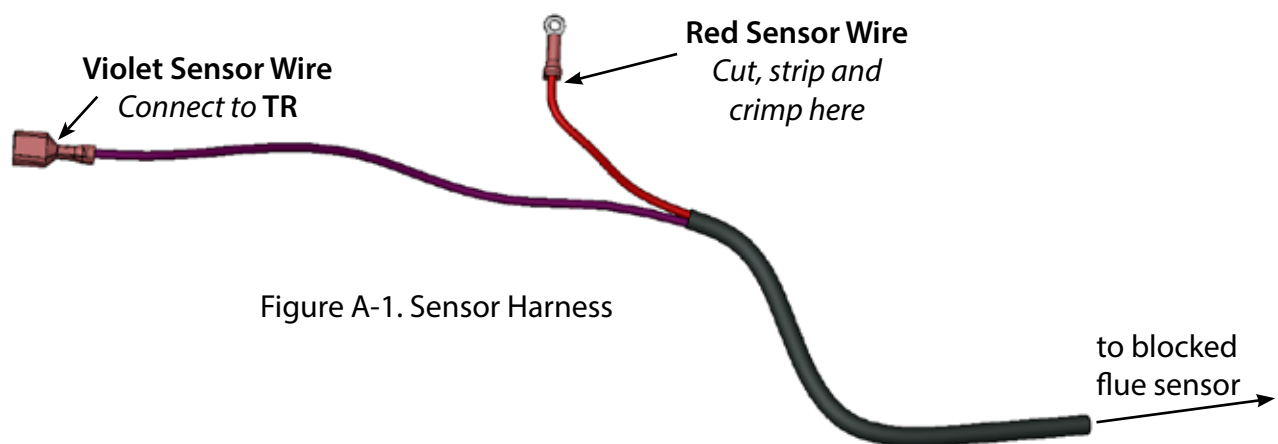

Figure A-1. Sensor Harness
- Cut the ring terminal off of the red wire of the blocked flue sensor harness leaving as much wire remaining as possible. Strip ¼" of the insulation from the cut end and crimp the enclosed male push terminal onto this stripped end. See Figure A-1.